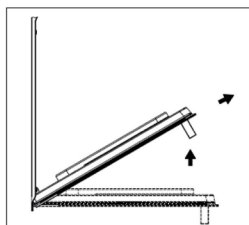

Fig. 2
Now, shutting the door slightly, you can lift it out by pulling out the hooks (A) as shown in Fig. 2.